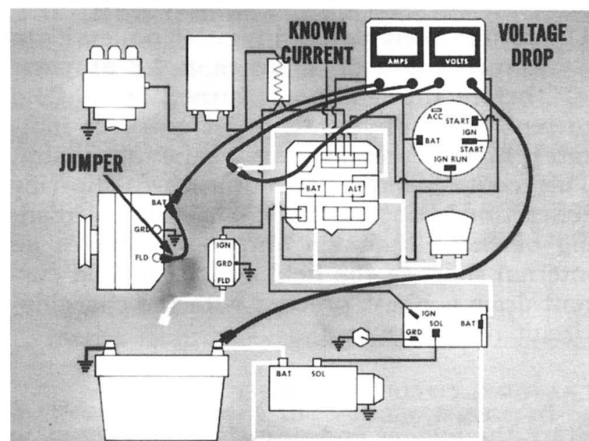

Fig. 3—Charging-circuit resistance test.
3. Connect the negative lead of a DC voltmeter to the positive battery terminal. Connect the positive lead to the charging-circuit wire, as shown (Fig. 3) so that the voltmeter will not register voltage drop across the ammeter.